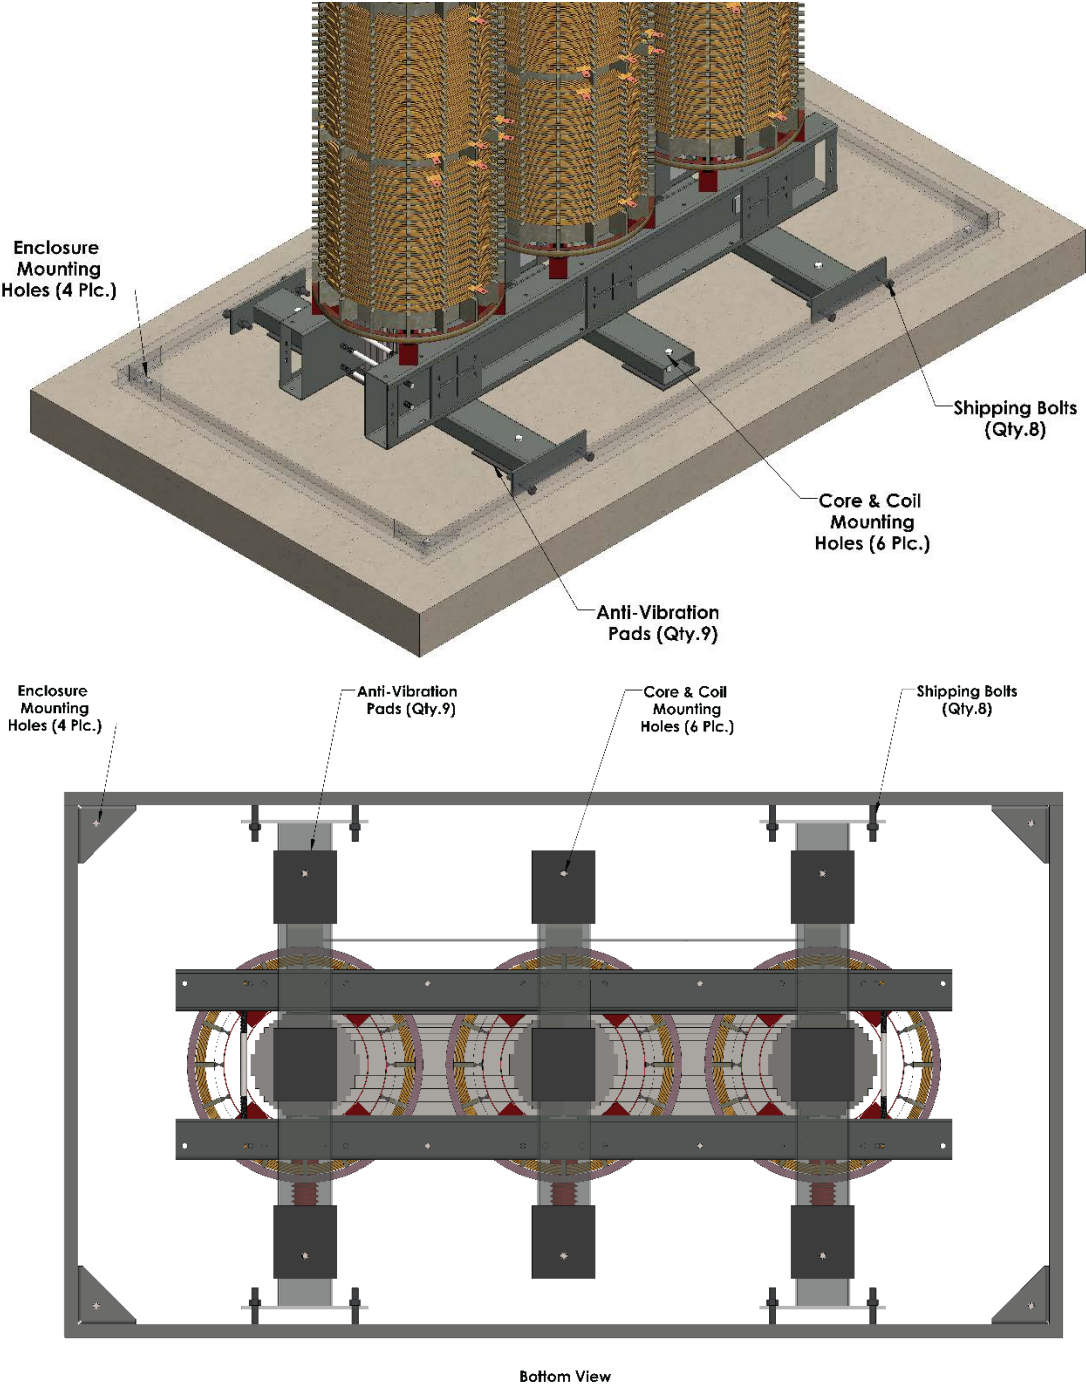

Figure 6: Standard Transformer Base Detail
Unless special provisions have been made on the transformer core & coil base, transformers should be solidly mounted to the floor using the mounting holes provided. The neoprene anti-vibration pads supplied should be positioned underneath the transformer base channels as shown in figure 6. Depending on the weight of the transformers, the unit will be supplied with either 6 or 9 pads. When only 6 pads are supplied, the pads should be located at the mounting holes. The shipping bolts
connecting the core & coil base channels to the enclosure are provided to ensure that the two cannot move relative to each other, and electrical clearances are not compromised while the transformer is being moved into its final location. They should only be removed once the core & coil and the enclosure have been independently secured to the floor, and should be stored for future use. See Figure 6 below for mounting details. For transformers with provisions for lifting, jacking, skidding & rolling, or for mounting on seismic springs and snubbers, an alternative base construction is supplied (See figure 7). Once the transformer has been moved into place, that the lifting cover plate should be replaced and secured in order to prevent dirt, or other objects from falling into the transformer. Refer to the factory approval drawings for details, or contact Rex Power Magnetics for any questions relating to the transformer mounting.
- B. Shipping bolts between core & coil base and enclosure should be removed to avoid vibration transferring from the transformer to the enclosure. (See figure 6)
Dry type power transformers supplied as core & coils, or installed in an open bottom enclosure are supplied with standard neoprene anti-vibration pads to be positioned underneath the core and coil base channel assembly. These anti-vibration pads reduce the transfer or vibration and noise from the transformer core to the mounting surface. Refer to figure 6 for proper location of these pads.
11. Replace the core & coil shipping bolts and any shipping braces that might protect the assembly during movement. (See figure 6, Section 7.3)